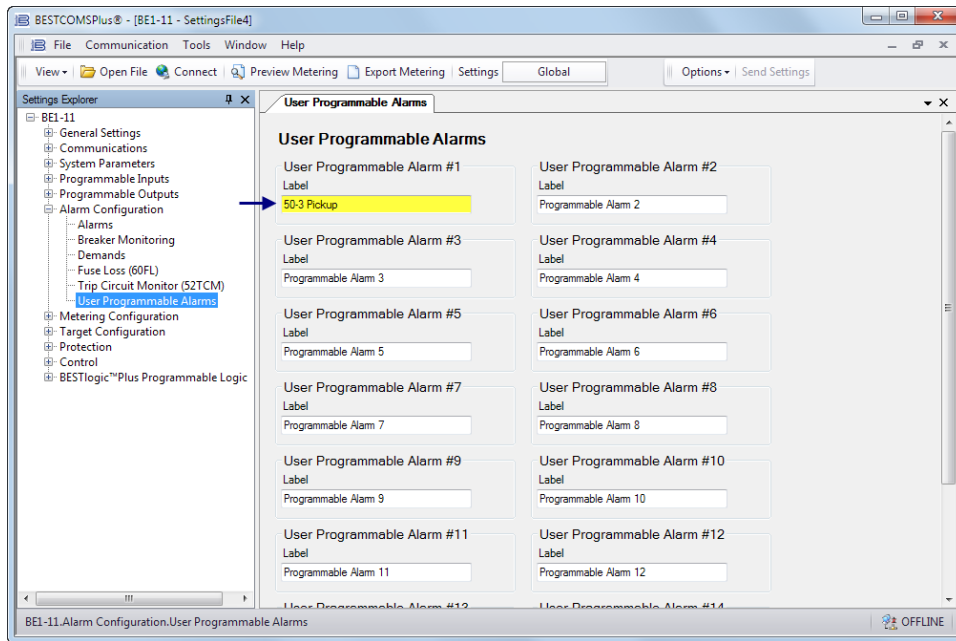

Figure 2-20. User Programmable Alarms Screen
Step 14: In the Settings Explorer, expand Alarm Configuration, User Programmable Alarms, and name User Programmable Alarm #1 (50-3 Pickup) as shown in Figure 2-20.